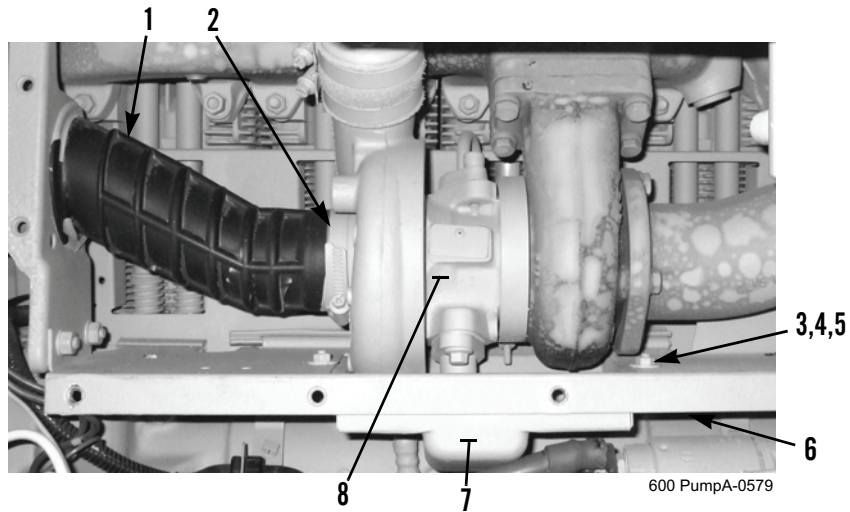

Figure 7. Turbocharger.
8. Install intake elbow (Figure 7, Item 1) and clamp (Figure 7, Item 2) on turbocharger (Figure 7, Item 8).
9. Install cap (Figure 7, Item 7), four washers (Figure 7, Item 5), two bolts (Figure 7, Item 4), and nuts (Figure 7, Item 3) on lower cover (Figure 7, Item 6).